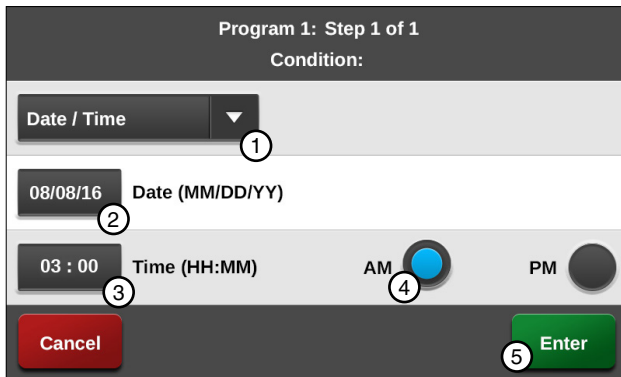

Figure 132-1 1. Date/Time Condition 4. AM
1. Push **Menu**, **Programs**, and **Step Programs** to view the Step Programs screen. Refer to Figure 132-1.
- a) Select the **Choose Condition** drop-down menu and choose **Date/Time**. Refer to Figure 132-1.